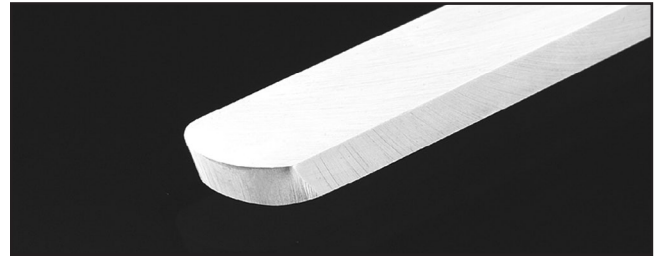

Figure 21. Round nose scraper.
- **Scrapers:** Mainly used where access for other tools is limited, such as hollowing operations. This is a flat, double-ground tool that comes in a variety of profiles (Round Nose, Spear Point, Square Nose, etc.) to match many different contours. **Figure 21** shows an example of a round nose scraper.